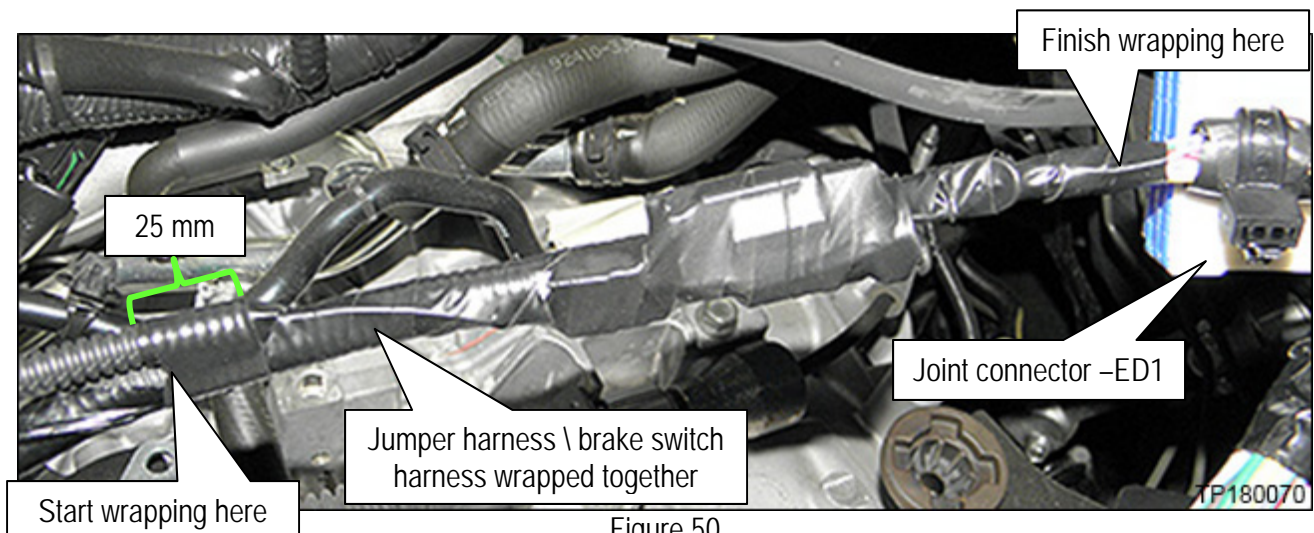

Figure 50
54. Starting at the point shown in Figure 50 wrap the jumper harness and brake switch harness together with black electrical tape as follows:
- a. Start the wrap approximately 1 inch (25 mm) below where the two (2) corrugated harness protectors of the jumper harness and brake switch harness come together.